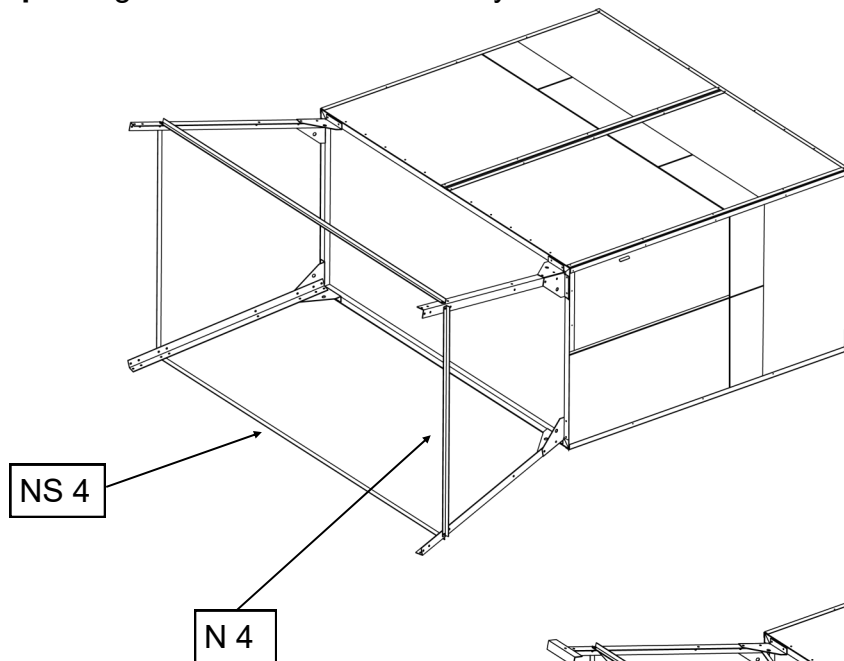

Figure 2
Step 2: Install the **Horizontal Bracing** for support. (*Figure 2*)